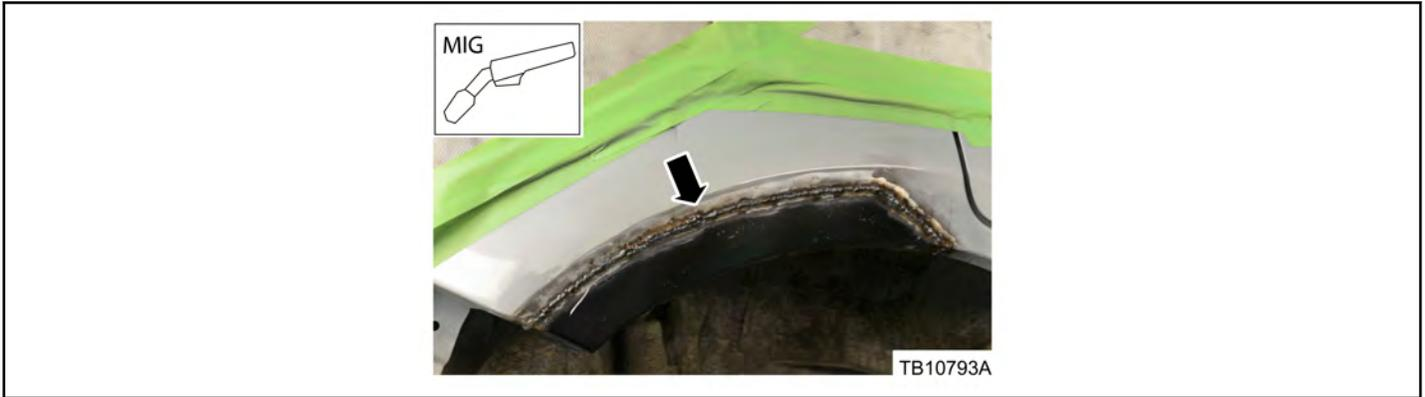

Figure 11 - Article 15-0157
29. Use a MIG welder and stitch weld the patch panel onto the quarter panel. (Figure 11)